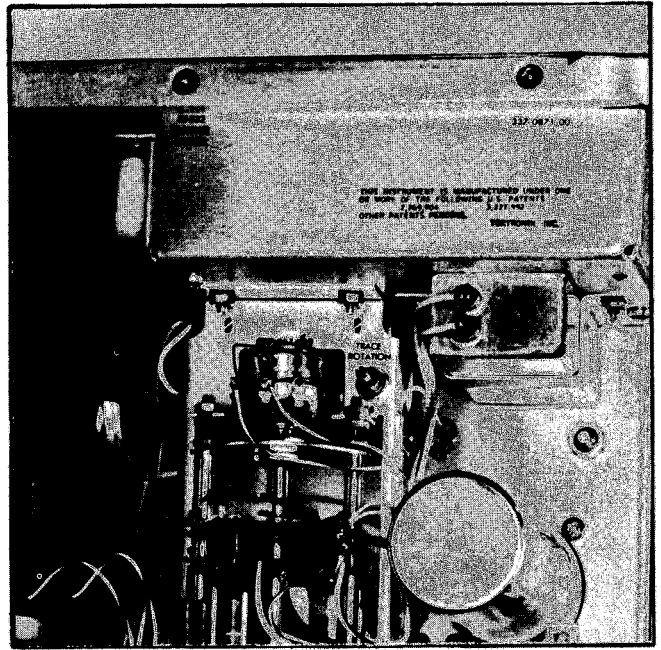

Fig. 6-8. Location of Trace Rotation R1035.
- c. Adjust the Trace Alignment R1035 (see Fig. 6-8) so the trace is aligned with the horizontal graticule centerline.